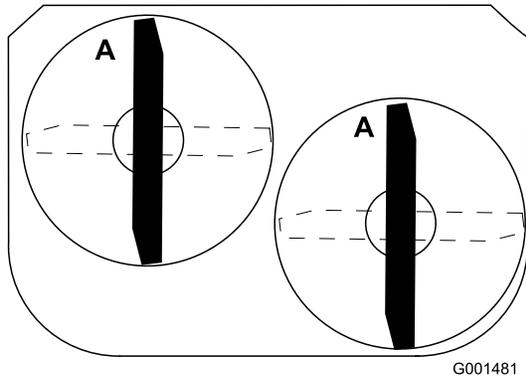

Figure 54
3. Rotate the blades until the ends face forward and backward (Figure 54).